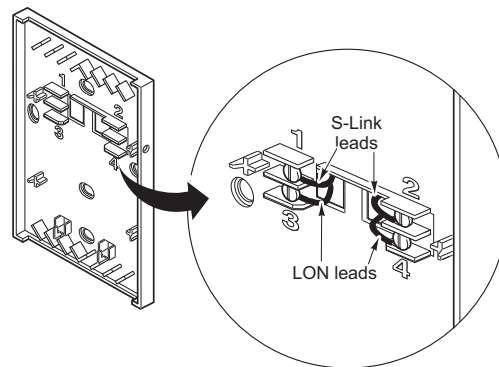

Figure-7 S-Link and LON Connections.
Communications wiring includes a connection between the controller and an I/A Series MicroNet Sensor via the S-Link and an optional connection between the sensor and the MicroNet LONWORKS network (LON). Figure-7 shows S-Link and LON wiring terminations.
2. Connect wires to screw terminals 1 and 2 (Figure-7). The S-Link terminals are polarity insensitive.
2. Connect wires to screw terminals 3 and 4 (Figure-7). The LON terminals are polarity insensitive.